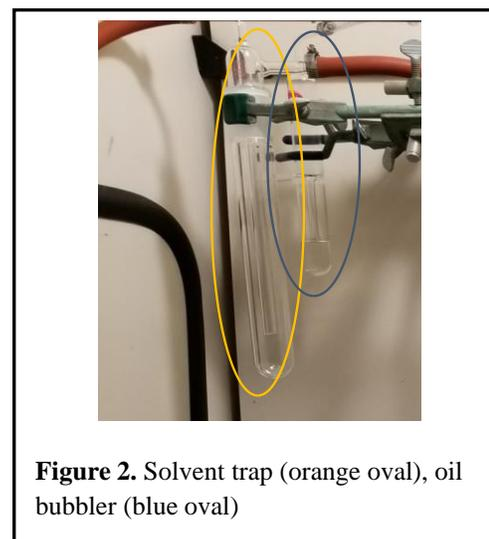

Figure 2. Solvent trap (orange oval), oil bubbler (blue oval)
2. Before turning on the pump, ensure that the solvent trap is put together (Fig. 2), otherwise the pump will be pumping continuously against the atmosphere, which is not good for the pump's lifetime.
4. You must confirm that gas is flowing through the system by visualizing a flow of bubbles in the oil bubbler (Fig. 2). Note: the bubbler should be filled with silicone oil (100 cSt) $\sim 1 \text{ cm}$ above the bottom of the glass rod that protrudes into the bottom.